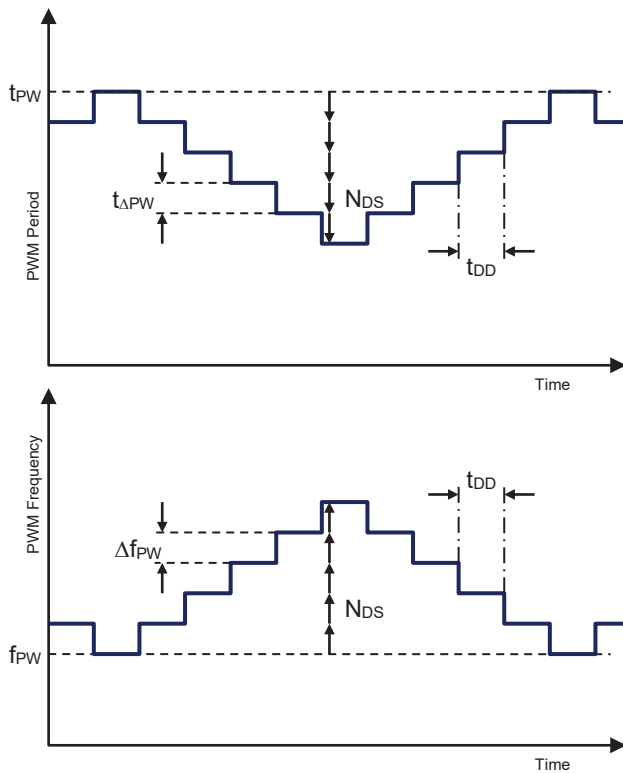

Figure 6: PWM Frequency Dither
The AMT49700 includes an optional PWM frequency dither scheme that can be used to reduce the peak radiated and conducted electromagnetic (EM) emissions. This is accomplished by stepping the PWM period in a triangular pattern in order to spread the EM energy created by the PWM switching. There are three programmable variables that can be used to adjust the frequency spreading for different applications. These are the dither step period, $t_{\Delta PW}$, dwell time, t_{DD} , and the number of steps in the pattern, N_{DS} . These are identified in Figure 6.
Figure 6 shows the dithered period on top and the corresponding frequency below. The PWM frequency at any time is defined by the PWM period. The base PWM period, t_{PW} , is indicated as is the resulting base frequency, f_{PW} .